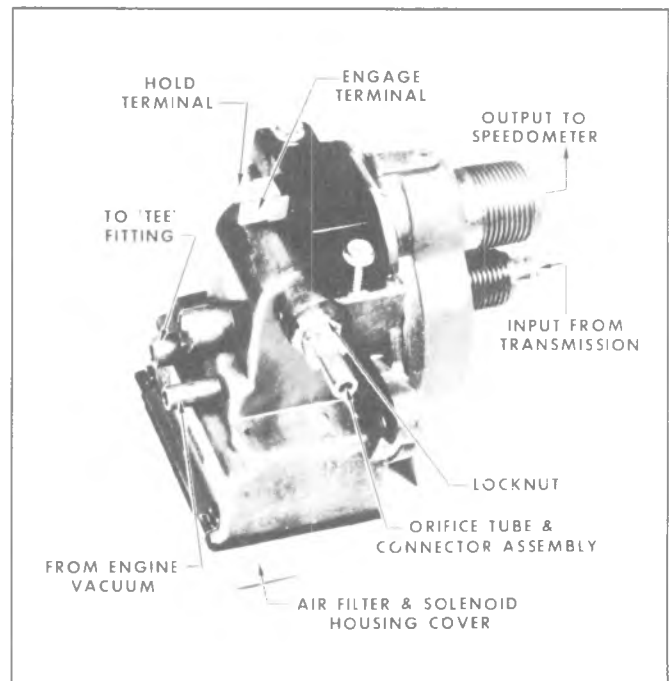

Fig. 9-2C-Regulator Unit
2. The Regulator (fig. 9-2C) is mounted in the speedometer cable line. It is a combination speed sensing device and control unit. When engaged, it senses vehicle speed and positions the Servo Unit to maintain the selected speed.
If the vehicle cruises at a speed a few mph above or below the engagement speed, this error can be corrected with a simple adjustment of the orifice tube in the regulator (fig. 9-2C).